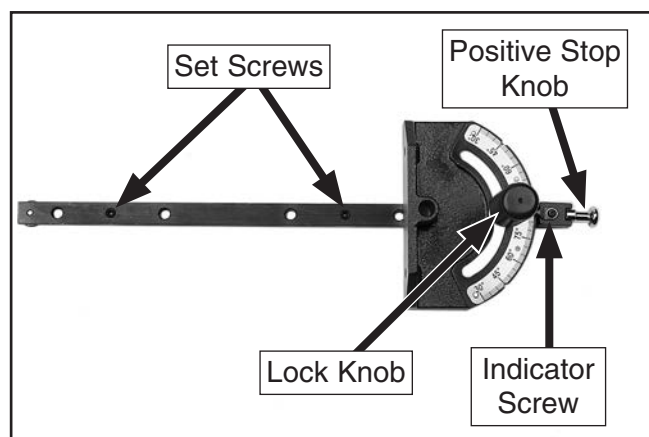

Figure 122. Set screws for adjusting miter bar in miter slot.
3. Loosen miter gauge lock knob, pull out positive stop knob, then pivot miter gauge body to 90° so stop knob springs into position (see **Figure 122**).
The miter bar can be adjusted so it fits more tightly in the miter slot. To adjust the miter bar tightness, adjust the set screws shown in **Figure 122** as needed. Bar should slide with little resistance.